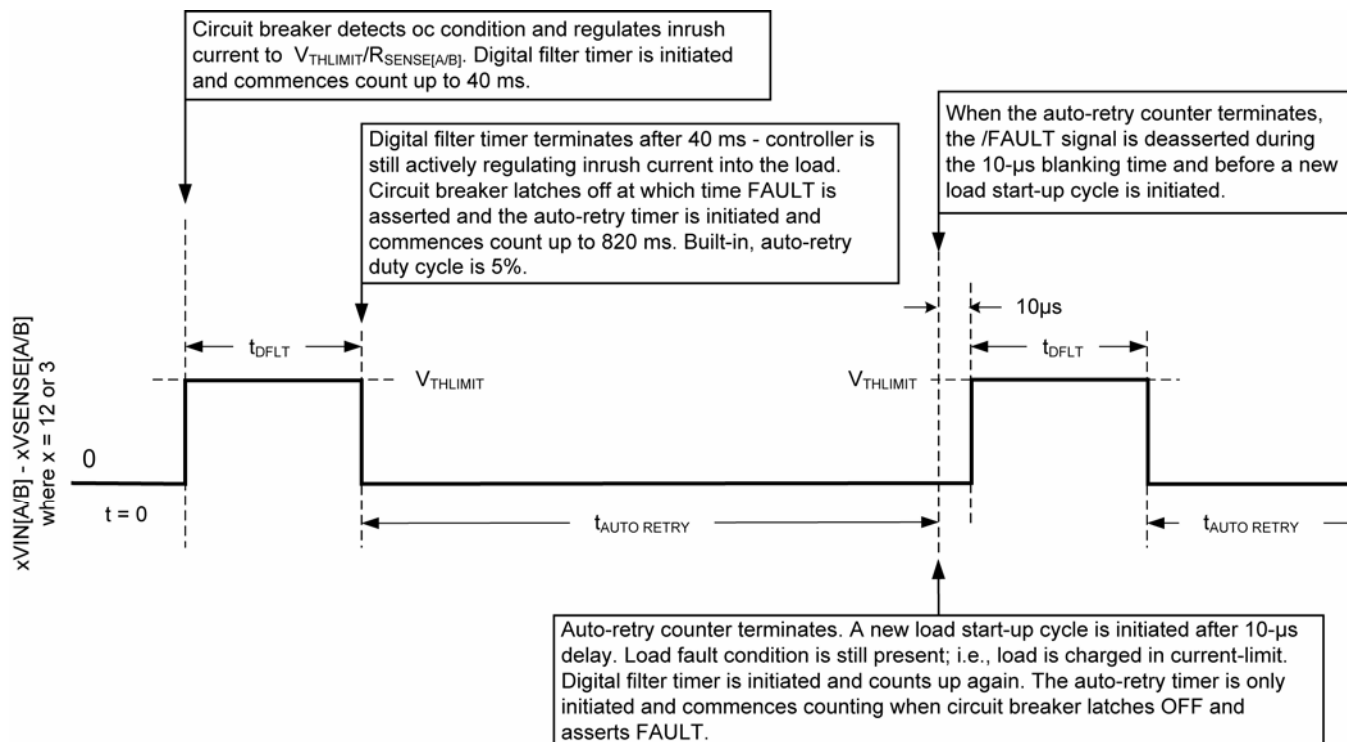

Figure 7. MIC2342R Auto-Retry Timing Diagram and Operation in Current-limit
In very cost-sensitive applications, the system design engineer can save the cost of the (2) external $C_{FILTER[A/B]}$ capacitors by using only the digital filter and/or the Auto-retry delay counters. This mode is automatically invoked by connecting the MIC2342 or the MIC2342R's $C_{FILTER[A/B]}$ pins directly to AGND. In this configuration, the primary OC detectors' response time t_{FLT} is equal to t_{DFLT} (or 40ms as above) In Figure 7,